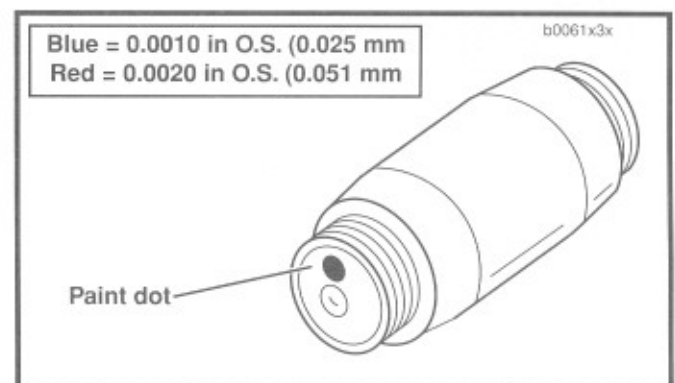

Figure 3-83. Oversize Crank Pin Identification
- See Figure 3-83. Oversize (OS) crank pins are available in two oversizes: 0.0010 and 0.0020 in. (0.025 and 0.051 mm) OS crank pins will have a blue or red paint dot applied to the ends of the pins. A blue dot indicates 0.0010 in. (0.025 mm) OS, a red dot indicates 0.0020 in. (0.051 mm) OS. Standard size crank pins will not be marked.